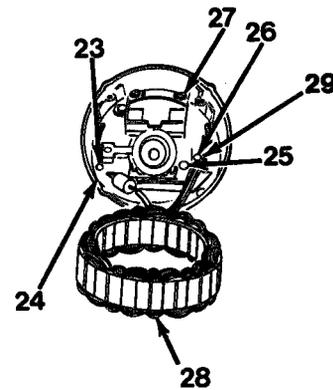

Figure 10-8
7. Pull stator assembly (28, Figure 10-8) away from rear housing